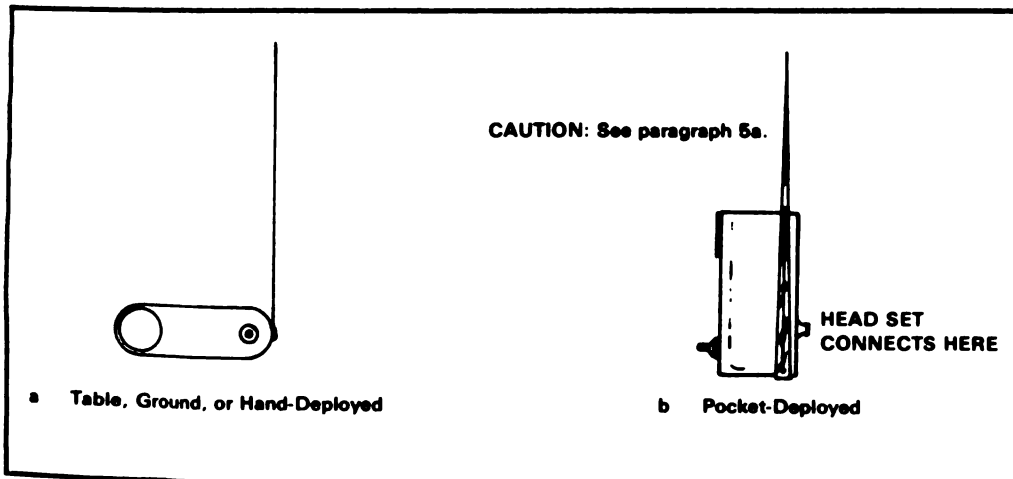

Figure 4. Receiver configuration while in use.
a. The two acceptable configurations in which the receiver set may be utilized are shown in figure 4. In the configuration "a," the receiver may be placed on a table, the ground, or held in the hand. The antenna should be free of any obstruction. In configuration "b", the receiver may be placed in the shirt pocket. CAUTION: The antenna should be on the side away from the body to avoid the possibility of malfunction or poor reception due to body perspiration.